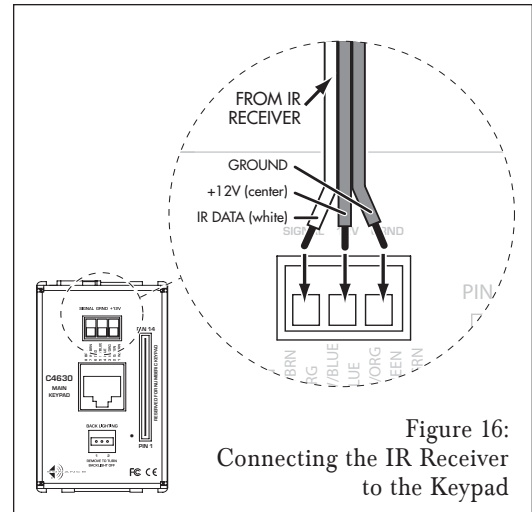

Figure 16:
3. Connect the IR receiver's 3-conductor ribbon cable to the keypad's rear-panel IR RECEIVER CONNECTION as shown in *Figure 16*. The connection features a 3-pin removable connector similar to the ones used for the speaker connectors. Insert the wires into the openings at the rear of the connector and secure them by tightening the screws at the top of the connector.